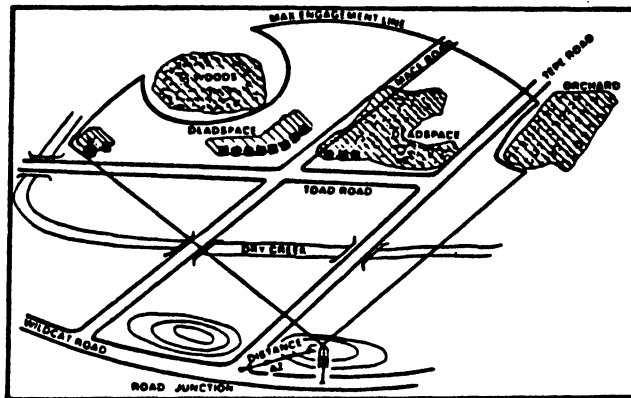

Fig 6-7. Indicating dead space.
B. Draw in the deadspace in your sector. Be sure and indicate the word DEADSPACE along those areas that you cannot engage (fig 6-7).